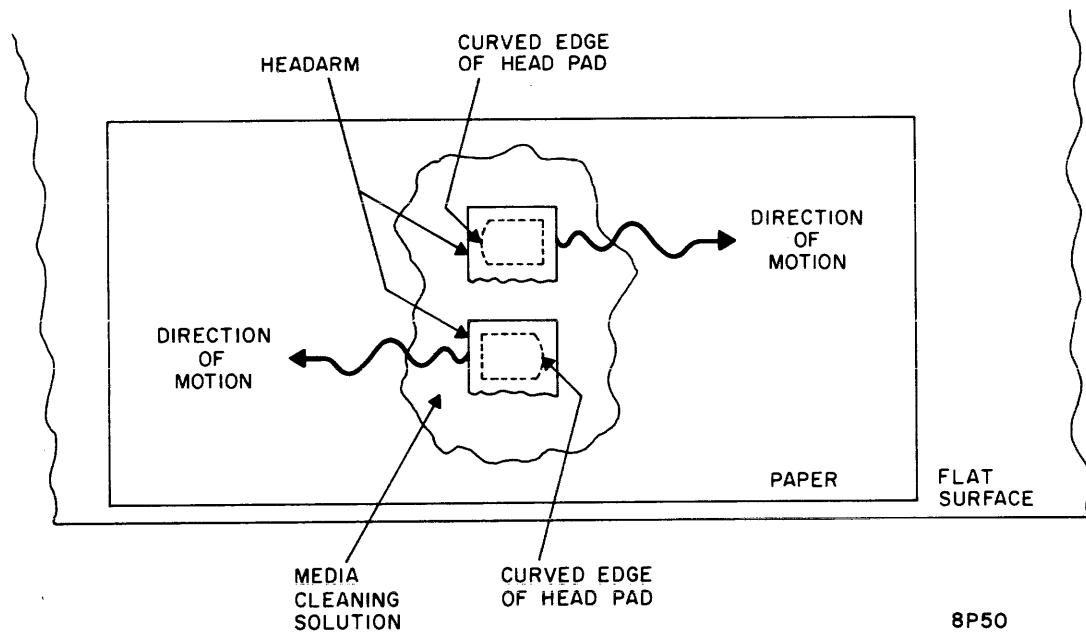

Figure 3-29.1. Head Cleaning Motion
If cleaning of head is required, refer to figure 3-29.1 and perform the following procedure. Use care not to damage the precision head pad, gimbal, and arm.
4. Gently place head pad flying surface on moistened area and lightly move head along paper in a zig-zag buffing motion (as shown in figure 3-29.1) from the moistened area to the dry area.